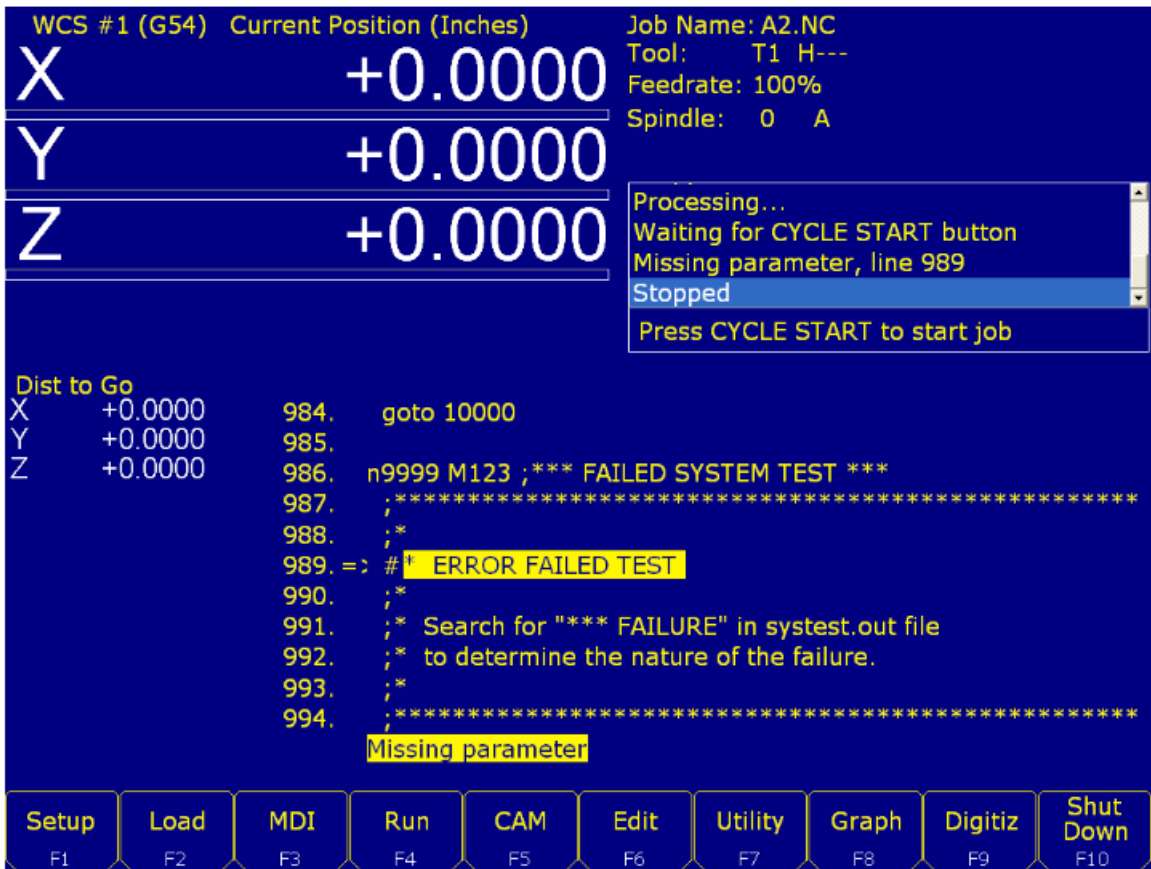
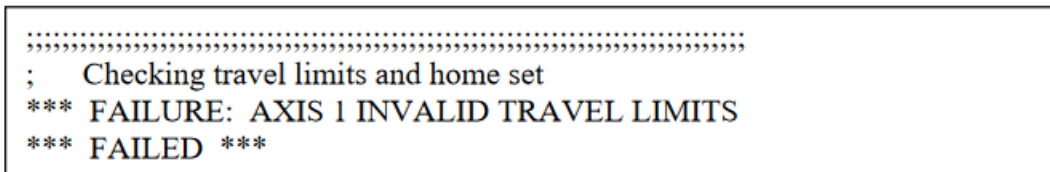

Figure 15.4
Figure 15.5
4. If the System Test fails at any time while testing, you will see “Missing parameter, line 989” on the Config Screen. To fix this, go back to the main screen, where you will see the following screen (see Figure 15.4). Load the `sysrest.out` file located in the CNC software directory and press **F6 – Edit** to see exactly what failed (see Figure 15.5).